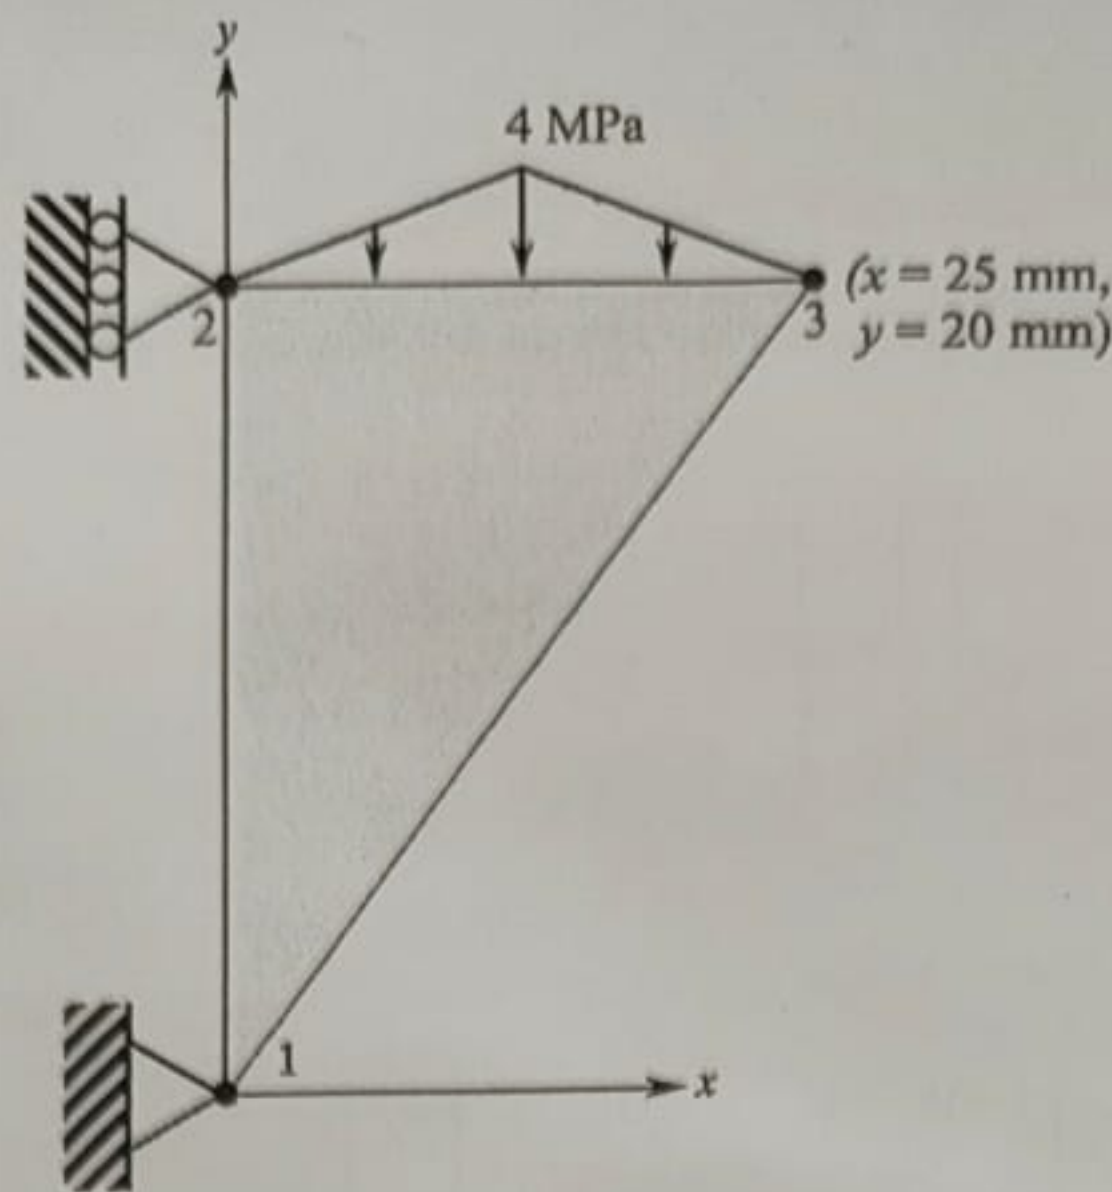

Figure 4
- ii) Consider a one-millimetre-thin plate under plane stress condition as shown in Figure 4. Find the deformed shape of the plate by discretizing it into a single three-noded triangular (linear) element. Assume Elastic modulus, $E = 200 \text{ GPa}$ and Poisson's ratio, $\nu = 0.3$. [10]